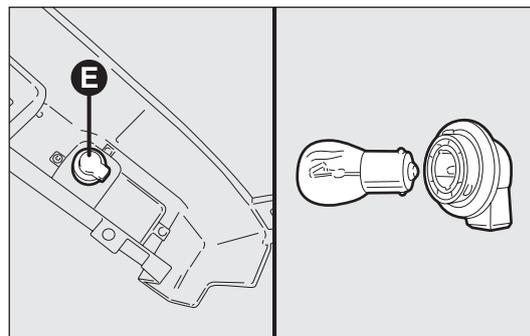

fig. 195
- ❑ turn bulb holder E anticlockwise (1/8 of a turn), remove the bayonet bulb by pushing gently and turning anticlockwise, then replace fig. 195.